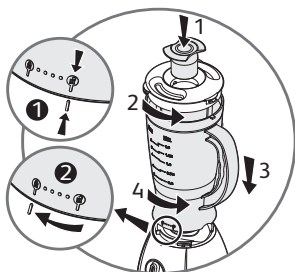

fig.1
- Fit the lid (B) to the mixer jug (C) and lock it by positioning it on the holes opposite the spout (figure 1).
Introduce the measuring cup (A) into the lid and press into place (figure 1). You are advised to hold the lid during operation.
- Place the mixer jug (C) on the body of the motor unit (D). The lock (open)  is aligned in the slot on the motor unit (figure 1).
- Then rotate the mixer jug (C) through a turn the lock (closed)  appears (figure 1).
- Dice all the ingredients before putting them into the mixer jug (C). It is best to start with liquids, without going over the maximum level shown on the jug (1.5L).
- Connect the appliance and start up by turning speed selector (E) to "Pulse," "1," or "2".
- To stop the appliance, bring the speed selector (E) to "0".
- Wait for the appliance back to a complete stop before removing the mixer jug (C).
- Remove the mixer jug (C) by unlocking it in opposite direction to installation.